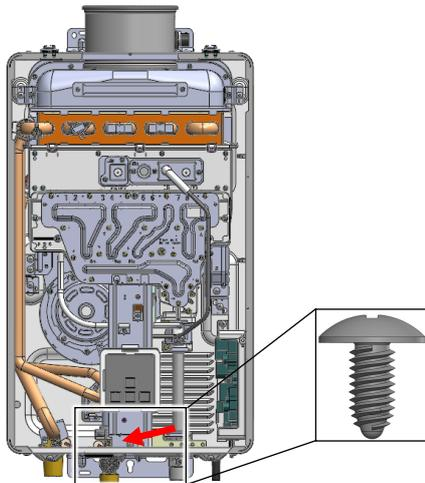

Figure 1
4. Remove the screw securing the controller and controller mounting plate to the water heater (Figure 1).